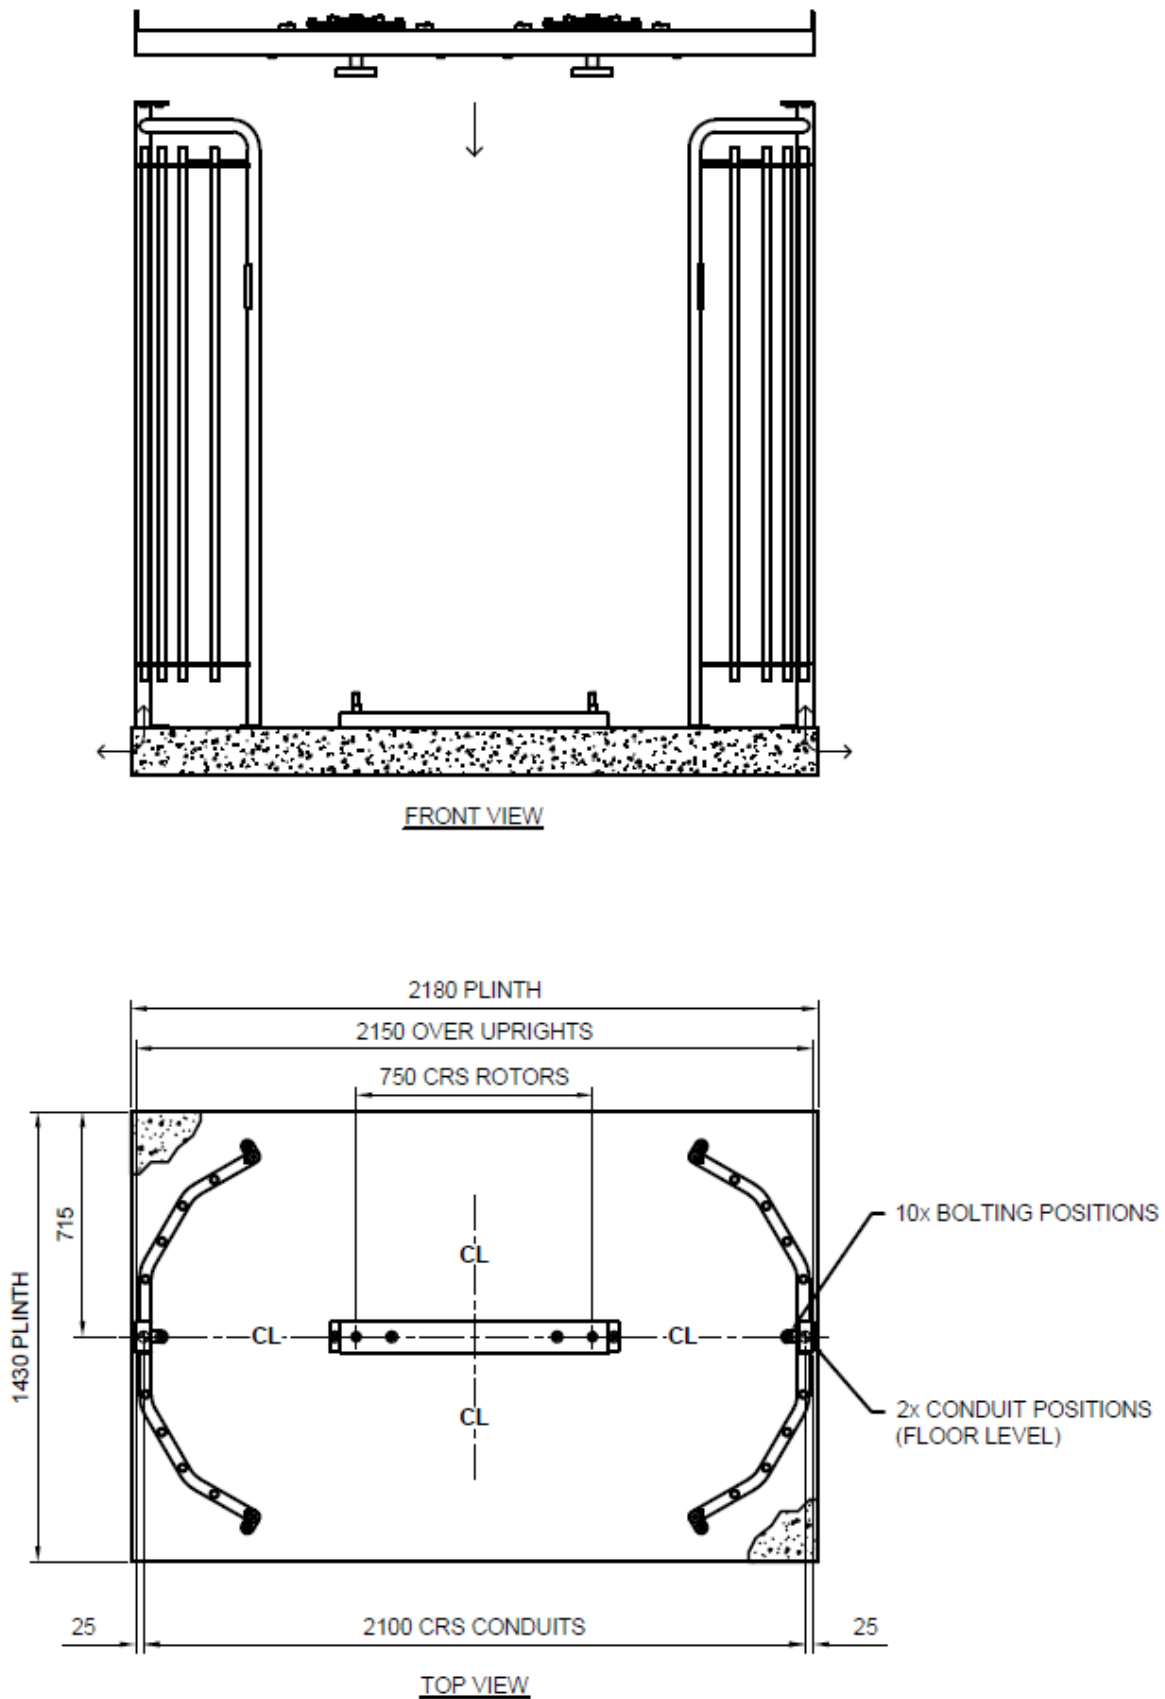

Figure 17: Double turnstile assembly
- Double Turnstile Specification: 2180mm long x 1430mm wide x 125mm deep, 20MPa strength concrete. (See Figure 17)